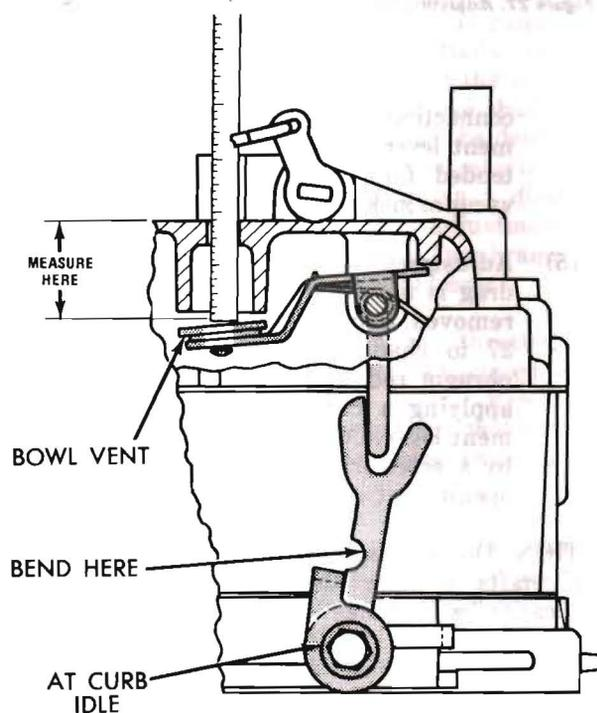

Figure 31. Adjusting Bowl Vent—Slide 1195
- (1) Using a suitable tool, remove the bowl vent valve checking hole plug in bowl cover.
- (2) With throttle valves at curb idle, insert a narrow ruler down through hole from which the plug was removed. Allow the ruler to rest lightly on top of the valve. The reading should be as specified for the particular carburetor being serviced, from the top of the valve to top of bowl cover at the opening. (See figure 31.)
- (3) If an adjustment is necessary, bend the bowl vent operating lever at the notch until correct valve opening has been obtained.
- (4) Install a new plug and tap it lightly with a small hammer to seat it in bowl cover.